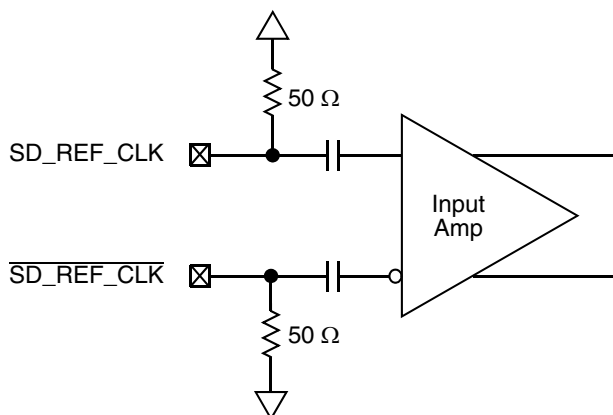

Figure 39. Receiver of SerDes Reference Clocks
- The SD_REF_CLK and $\overline{SD_REF_CLK}$ are internally AC-coupled differential inputs as shown in Figure 39. Each differential clock input (SD_REF_CLK or $\overline{SD_REF_CLK}$) has a 50-Ω termination to SCOREGND followed by on-chip AC-coupling.